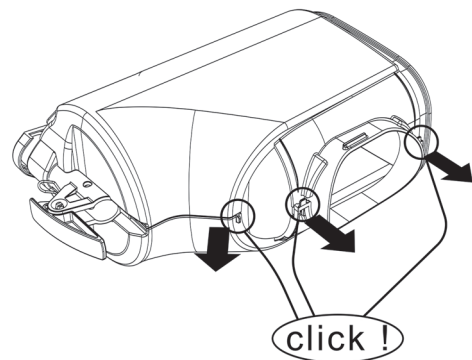

figure 13
- 1 Click open the two parts. (see figure 13).